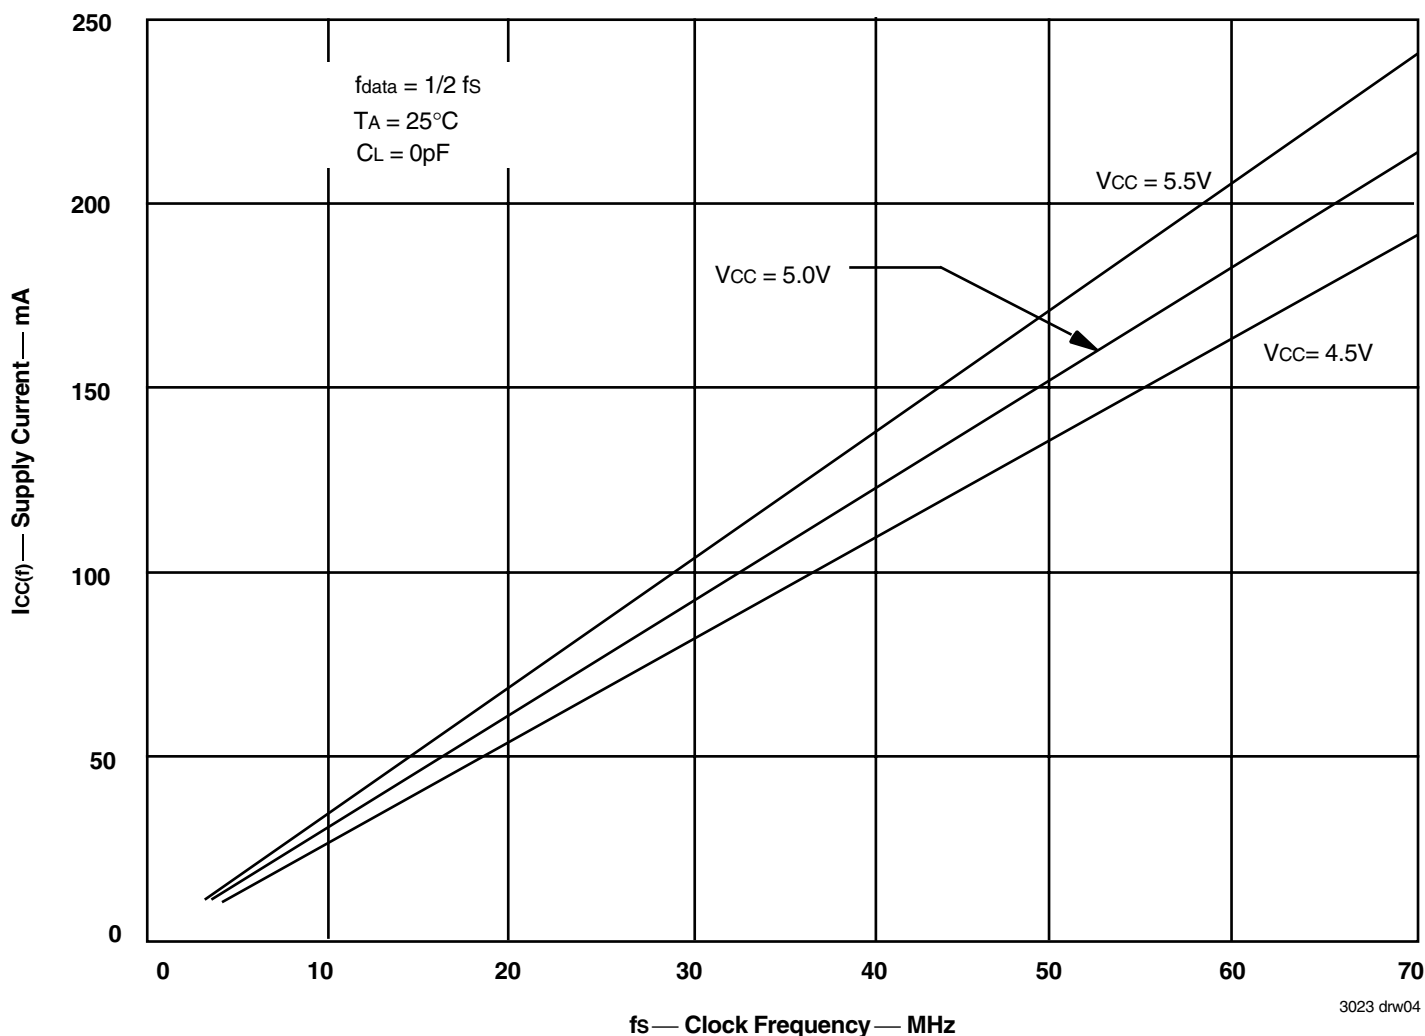

Figure 1. Typical Characteristics: Supply vs Clock Frequency
The $I_{CC}(f)$ current for the graph in Figure 1 was taken while simultaneously reading and writing the FIFO on the IDT723641 with CLKA and CLKB set to f_s . All data inputs and data outputs change state during each clock cycle to consume the highest supply current. Data outputs were disconnected to normalize the graph to a zero-capacitance load. Once the capacitance load per data-output channel and the number of IDT723631/723641/723651 inputs driven by TTL HIGH levels are known, the power dissipation can be calculated with the equation below.
With $I_{CC}(f)$ taken from Figure 1, the maximum power dissipation (PT) of these FIFOs may be calculated by: